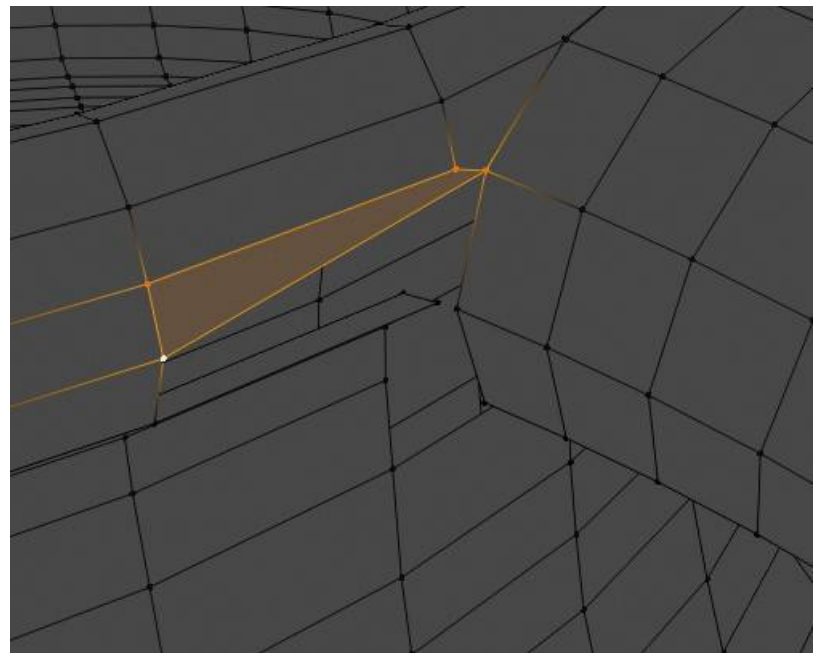

Figure 28
- 13) Select both the vessel and the handle and Join them in one object (**Ctrl+J**). Return to edit mode. Select adjoining vertices and click F to fill the gap between them (Fig. 28) and connect the handle to the